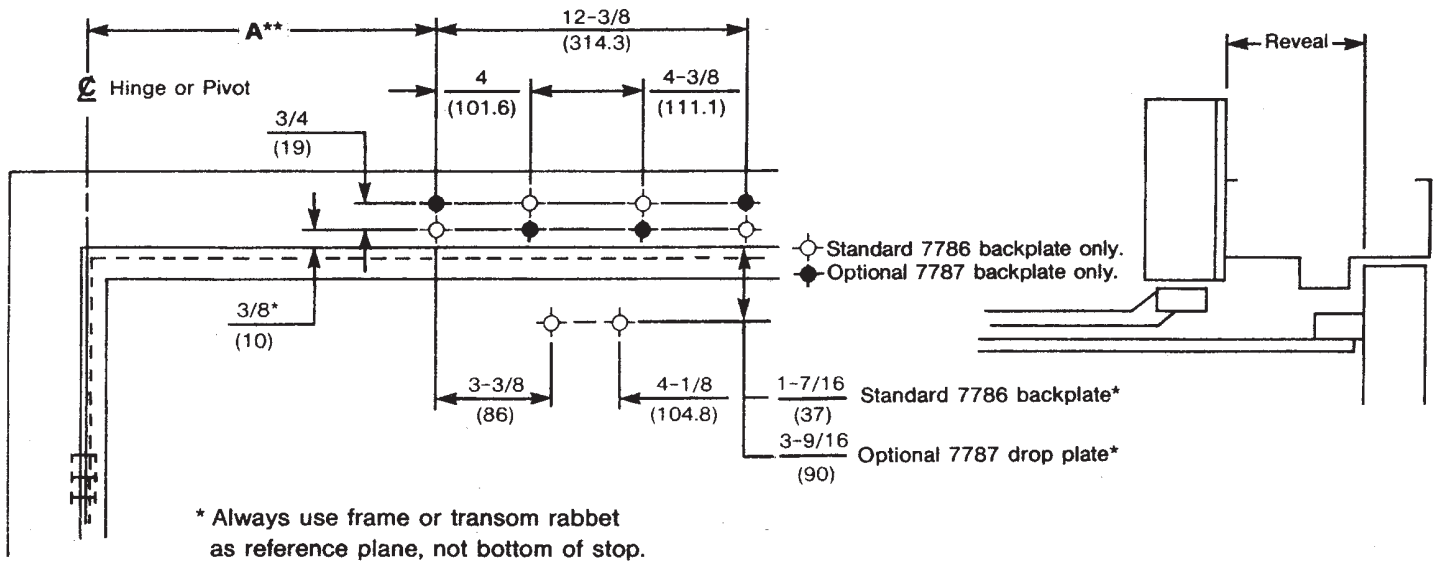

Figure 2
See figure 2 and select template dimensions Note: Separate template required for other applications	1 3/4" (44mm.) thick door on 4 1/2" (114mm.) wide hinges or 3/4" (19mm.) offset-pivots: figure 3. 1 3/4" (44mm.) thick door on center-pivots: figure 4. Frame reveals and door opening angles as charted: shock absorber will permit five (5) degrees of door travel beyond hold-open position.
Disassemble rod-unit from arm-assembly and install on door.	Rod under shock-absorber and closest possible to lock-stile (see figures 2 and 6)